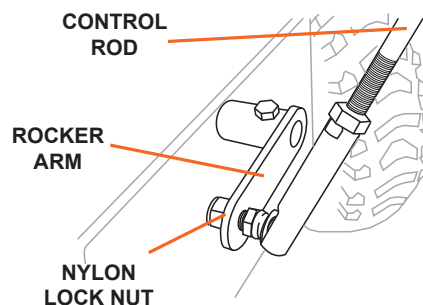

Figure 5
5. Attach the other end of the gear shift control rod to the rocker arm on the rear of the snow blower (see Figure 5). Pass the attachment bolt on the control rod through the hole in the rocker arm and secure with a nylon lock nut.